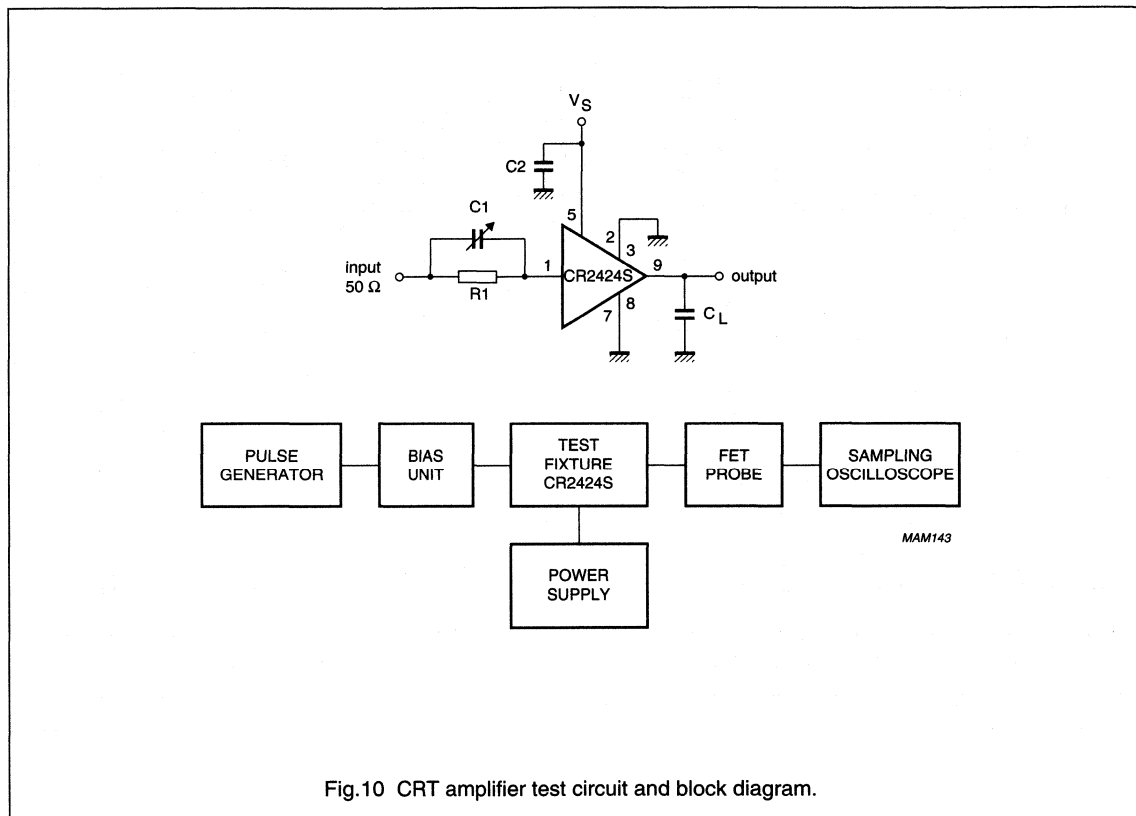

Fig.10 CRT amplifier test circuit and block diagram.
$T_{mb} = 25\text{ }^{\circ}\text{C}$; $C_L = 8.5\text{ pF}$; measured in test circuit (see Fig.10); unless otherwise specified.
1. Input signal is a 100 kHz square wave of 3.25 V (p-p), with 1.5 V (DC) offset (50 Ω source).
2. Input signal is a 100 kHz square wave of 3.4 V (p-p), with 1.65 V (DC) offset (50 Ω source).
4. Measured V_O/V_I (Figs 2 and 6) at input test circuit (see Fig.10).
5. Measured V_O/V_I (Figs 3 and 7) at input module (see Fig.10).
Components used in test circuit (see Fig.10)
Equipment used in test circuit (see Fig.10)